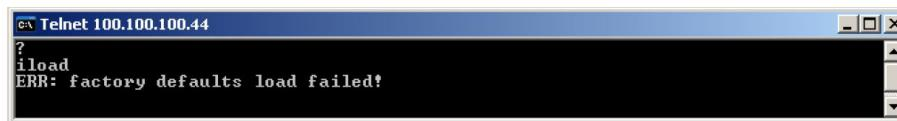

Figure 7.5: Unsuccessful iload error message
- If the **iload** procedure is unsuccessful, you will see the message: "ERR: factory defaults load failed" (fig. 7.5). In this case, repeat steps 5-9.